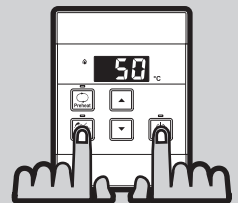

Fig. 3
6. Fix the water controller to the wall using the appropriate fixings (Fig. 3).
STEP 1: For the water controller in the KITCHEN ONLY, press and hold the 'Priority Transfer' and 'On/Off' buttons simultaneously (Fig. 3) until a 'beep' is heard (approximately 5 seconds).